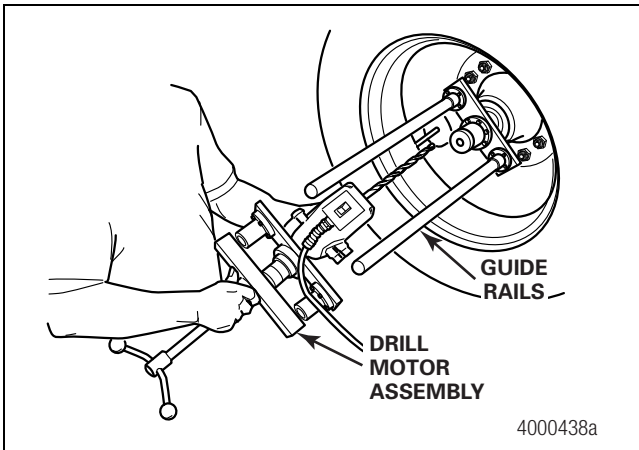
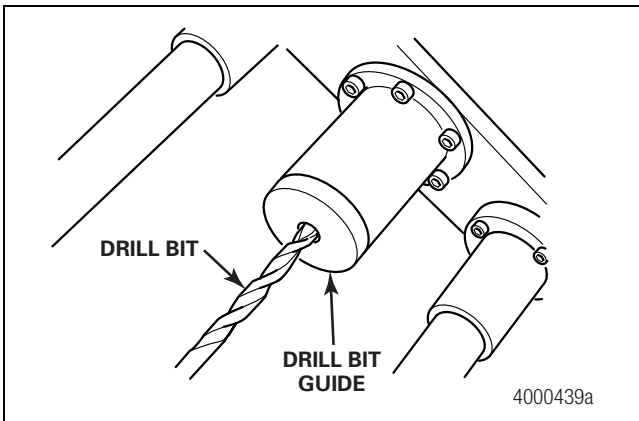

Figure 2.31
Figure 2.32
- Slide the drill motor assembly onto the guide rails. Ensure that the drill bit is inserted into the drill bit guide. Figure 2.31 and Figure 2.32.